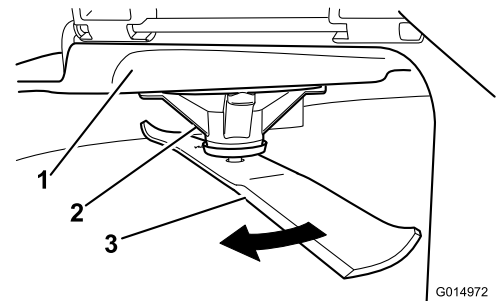

Figure 52
2. While wearing thickly-padded gloves, or other adequate hand protection, slowly rotate the blade to be measure into a position that allows effective measurement of the distance between the cutting edge and the level surface the machine is on (Figure 52).